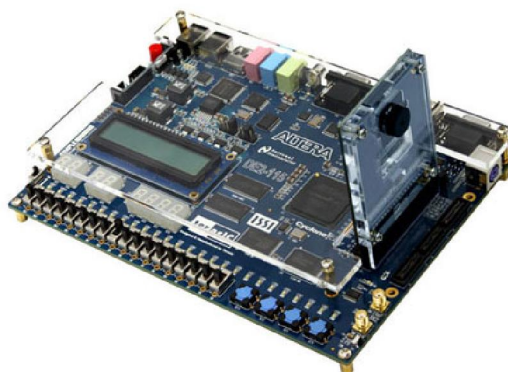

Figure 3.3. The Connection Setup for DE2-115 users
2. Ensure the connection is made correctly as shown in Figure 3.3. Make sure the D5M is connected to **JP5 (GPIO)** of the DE2-115 board.